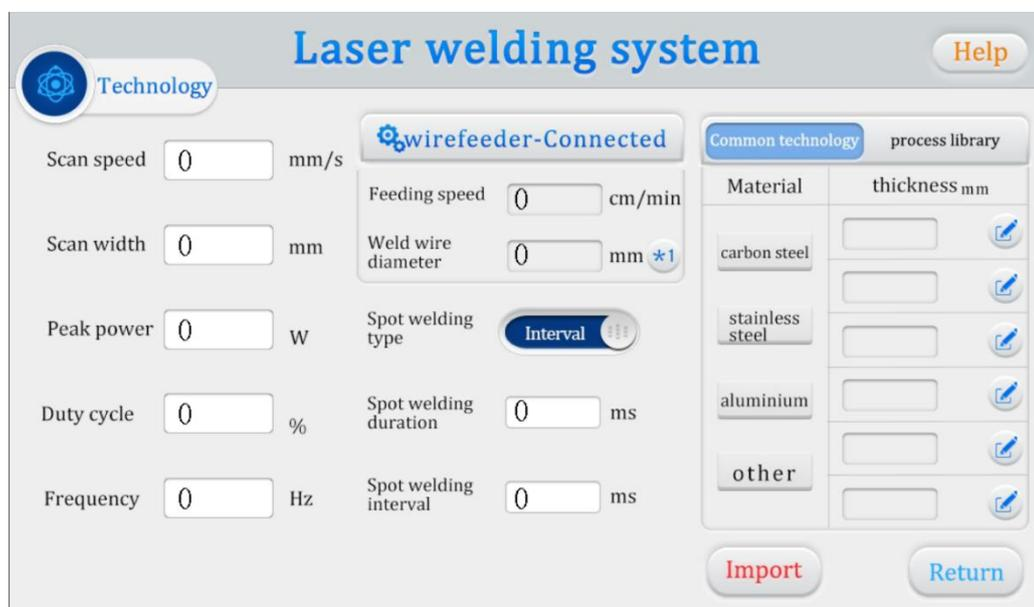

Figure 4.12 Laser Welding System Process Library - Process Page 1
① [Scan speed] [Scan width] [Peak power] [Duty cycle] [Frequency] are the same as on the process page.
② [Wirefeeder -connected] : When paired with [AMF-A] type wire feeder, the system control motherboard needs to be connected to the wire feeder motherboard via [232 communication], and the system interface shows as shown in Figure 4.12. Click on [Wire feeder - Connected] to enter the [Wirefeeder] interface. The communication status of the wire feeder interface is shown as external Control.